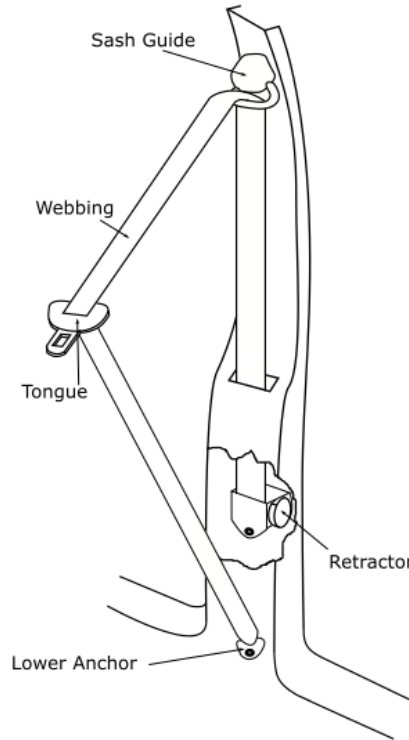

Figure 1.2 In Pillar Belt
- Figure 1.2 shows an IN-pillar belt. The retractor is mounted inside the pillar facing outside the vehicle.